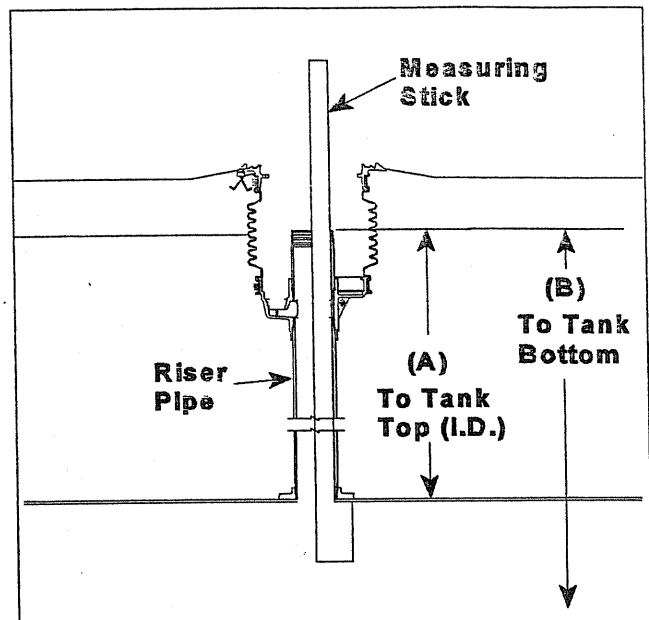

Figure 1
Measuring from the underside of the inlet tube flange, mark the overall length of the drop tube a distance of (B) minus 6" or as per local codes or requirements. Determine dimension (B) from the measurements taken in Step 1, Figure 1 (Tip of the riser pipe to the bottom of the tank). Saw off the excess tube at a 45 degree angle and file off any sharp burrs. (Refer to Figure 1&14)